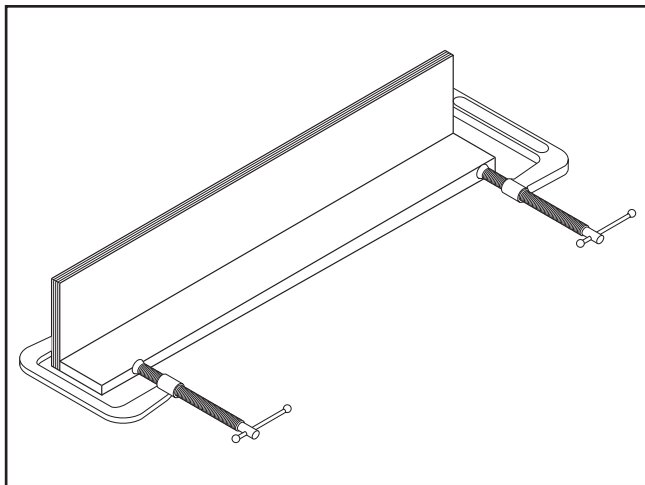

Figure 35. Clamping the resawing barrier.
3. Glue the end of the 3" board, then clamp the boards at a 90° angle with the larger board in the vertical position as shown in **Figure 35**.